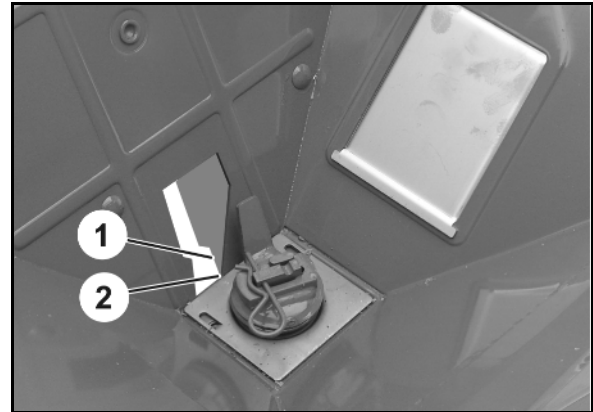

Fig. 103
- o the adjustment gauge (optional Fig. 103/1) must be able to be adapted easily.
2. Insert the gauge (Fig. 103/1).